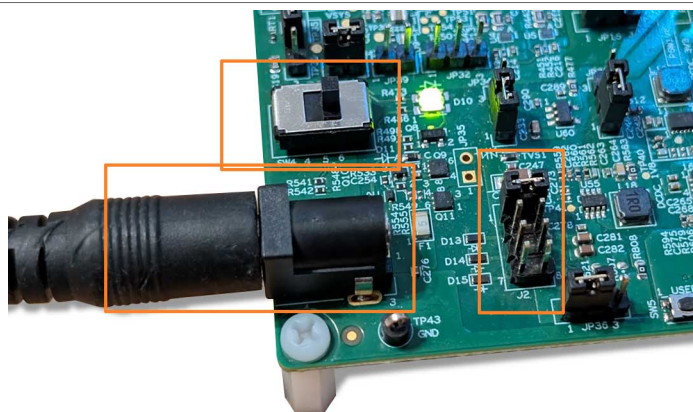

Figure 10. Power on the board
3. Slide the switch **SW4** to the ON position (5-6) as shown in Figure 10.